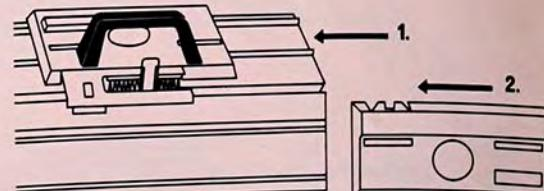

Fig. 10
9. Slide front lock onto main rails and place it in front of back lock until lock connection catches, fig. 10.